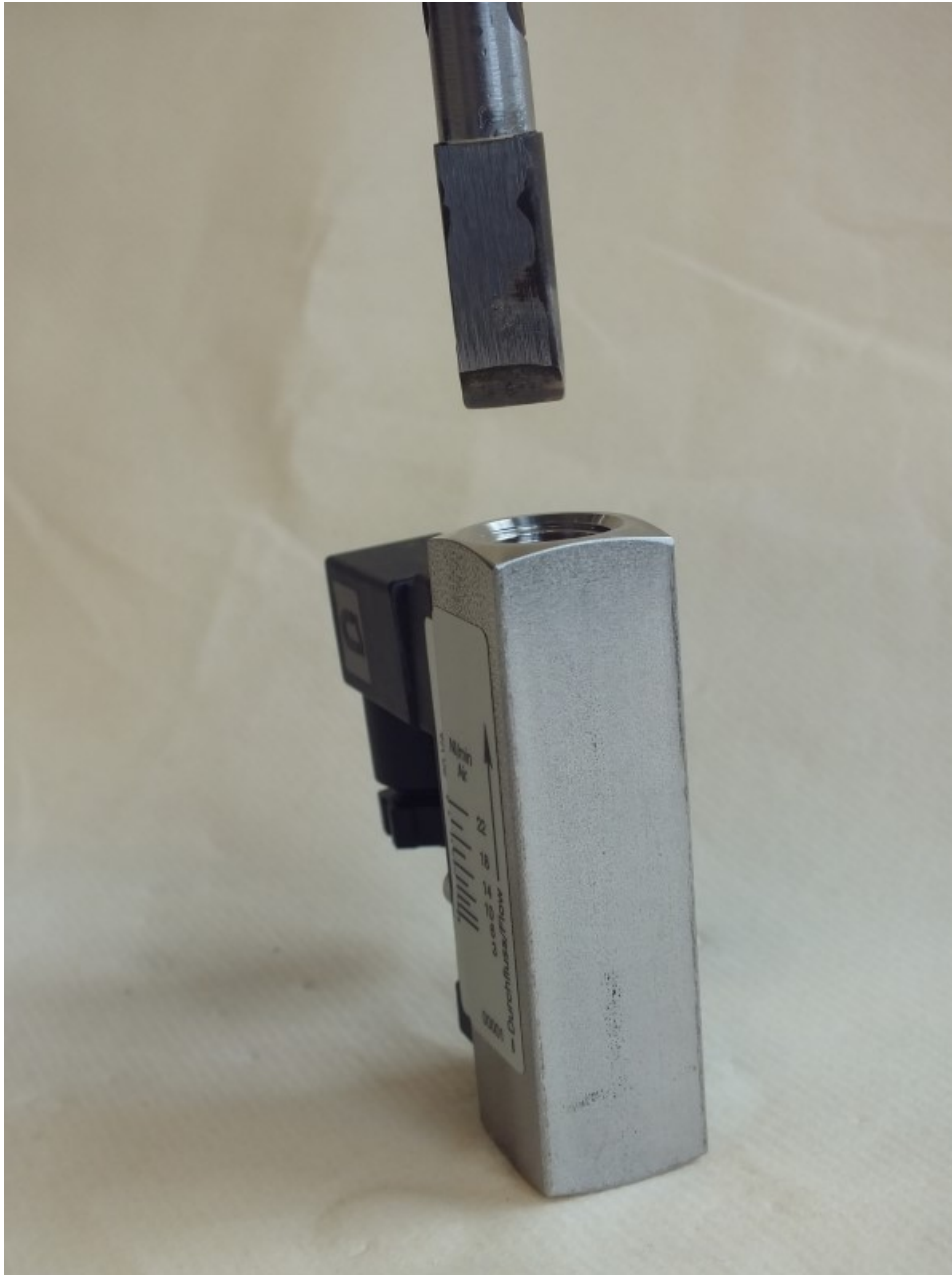

Fig. 34: Insert threaded ring insertion tool (outlet)
1. ➤ Insert threaded ring insertion tool into the outlet side of the device (*Fig. 34*) and turn until it rest in the keyway of the threaded ring